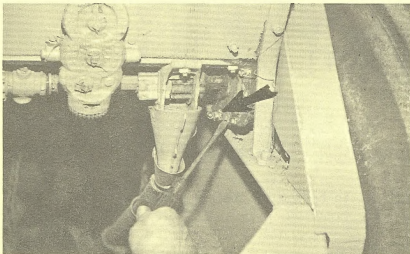

Figure 19. Grease fitting installed in bottom of gear case on PD drill
11. On PD drills, remove pipe plug in bottom of gear case and replace with pipe reducer and 1/8" grease zerk fitting (Figure 19). Then use chassis lube instead of 90 weight gear oil because these gear boxes were not properly designed to retain 90 weight gear oil.